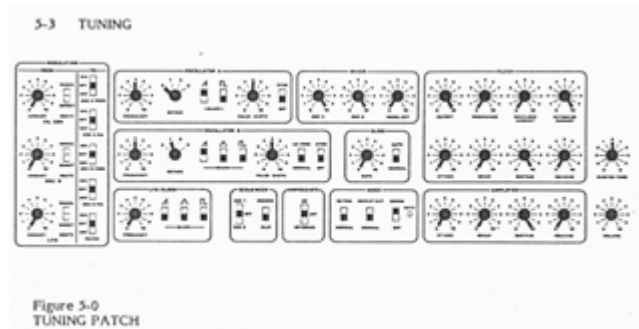
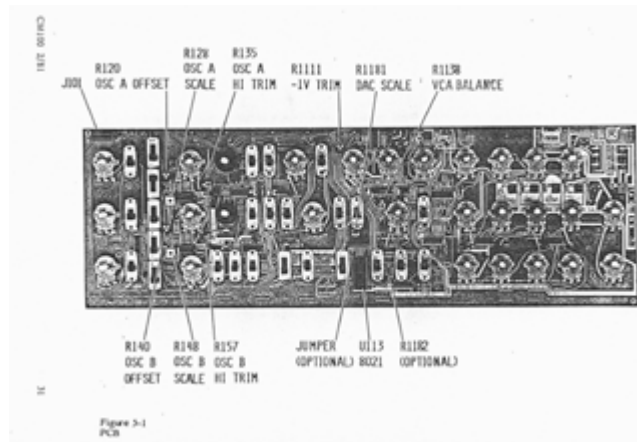

Fig 5-0
Fig 5-1
1. Patch according to Figure 5-0. For component locations, see Figure 5-1
1. Remove U113 (see Figure 5-1) 8021 microcomputer from its socket. Keep it safe. Note that with the 8021 removed, the Pro-One's keyboard cannot operate.
3. Add R 1182, 10K-ohm, 1/4W, 5% resistor where shown on Figure 5-1.